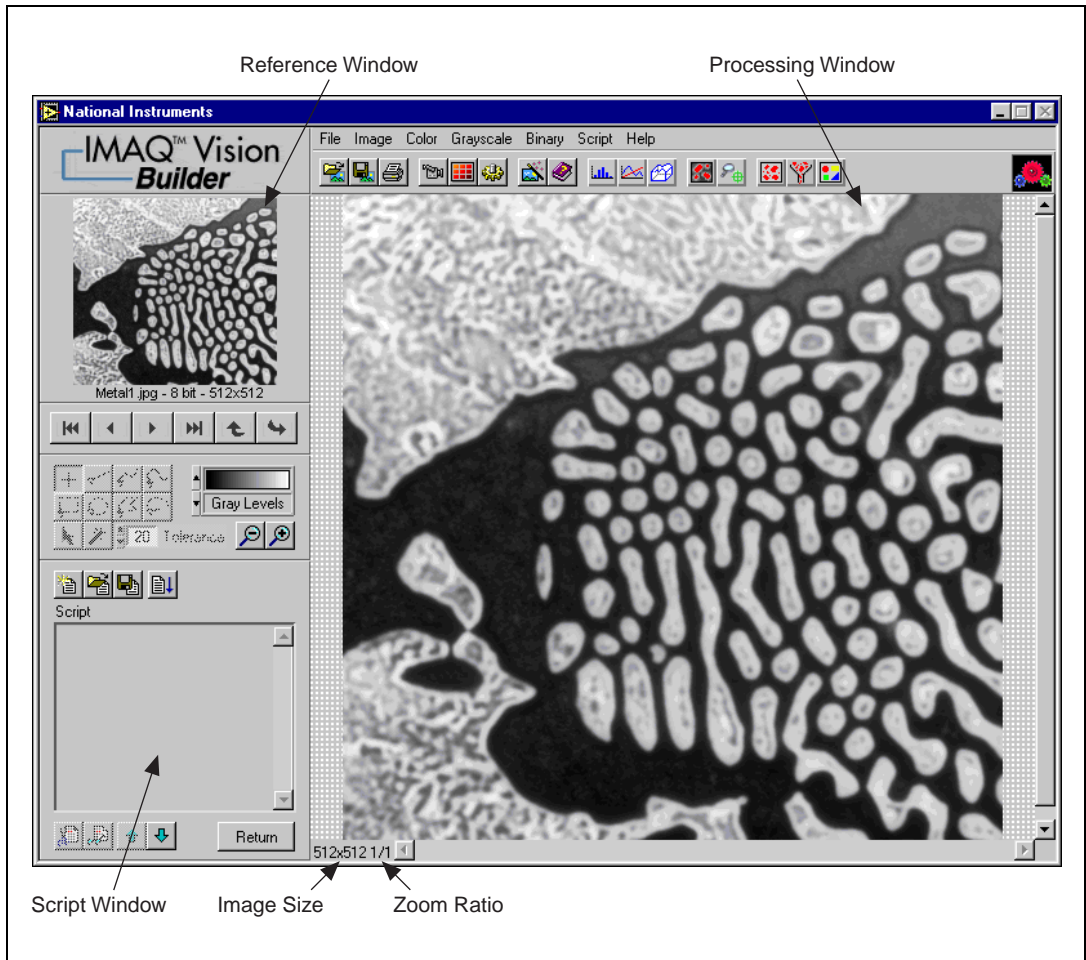

Figure 2-4. Processing an Image
- **Processing window**—Updates the image as you change parameters. Because this view immediately reflects the changes you have made in the parameters window, you can continue modifying parameters until you get the desired result. See Figure 2-4 to view an image loaded into the Processing window.
- Reference window—Displays the original version of the image (image source) as you manipulate it in the processing window. See Figure 2-4 to view an image in the Reference window.
6. To enter processing mode, double click the image `Metall1.jpg`. IMAQ Vision Builder loads the image into the processing window, as shown in Figure 2-4.